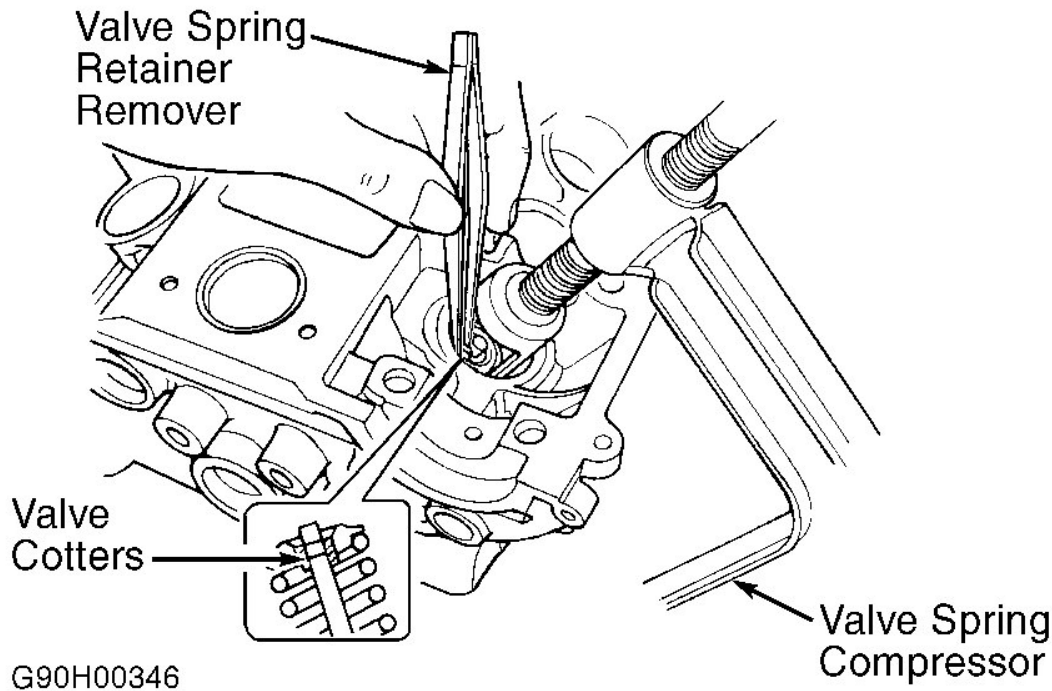

Fig. 8: Removing Valve Lock
2. Using Valve Spring Compressor (09916-14510) and Valve Lifter Attachment (09916-14910), compress valve spring. Using Valve Spring Retainer Remover (09916-84510), remove retainer locks. See **Fig. 8**. Remove retainers, springs, valve stem oil seals, spring seats and valves. Keep all components in order for reassembly reference.